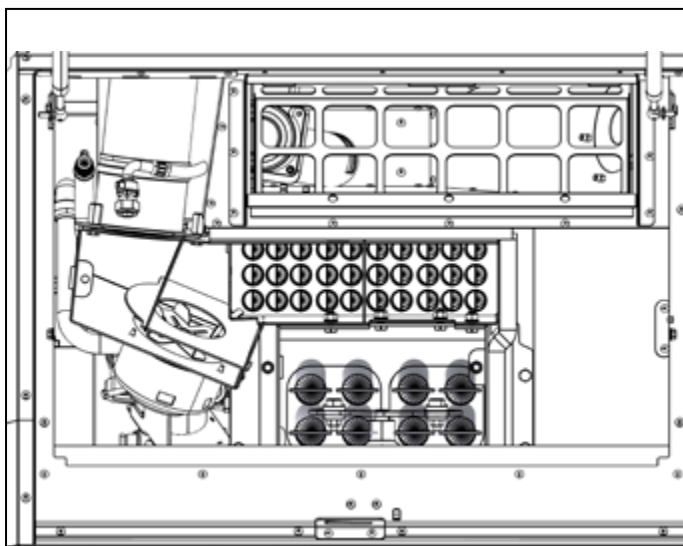

Figure 11-8: Primary heat exchanger spirals
- Check that the spiral baffles in the heat exchanger are all in place. Lift and drop each one to check all are free to move in their respective tubes. Refer to Figures 11-8.